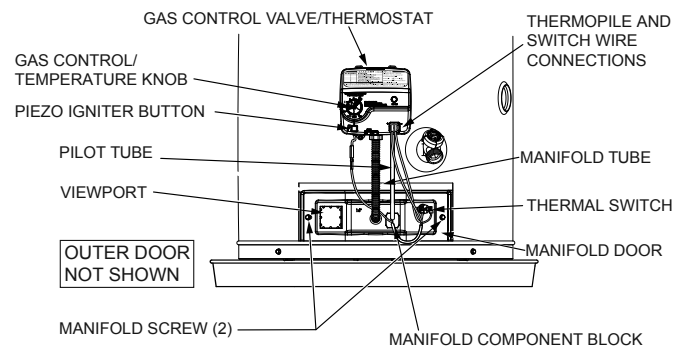

FIGURE 21.
8. Remove the screws (SAE 1/4" nut driver) securing the manifold/burner assembly to the combustion chamber. See Figure 21.
2. Inspect the viewport for damage and replace as required (Figure 21).
7. Connect the white and red wires to the gas control valve/thermostat as shown in Figure 21. Also, ensure that the red thermal switch wires are connected to the thermal switch on the manifold door..